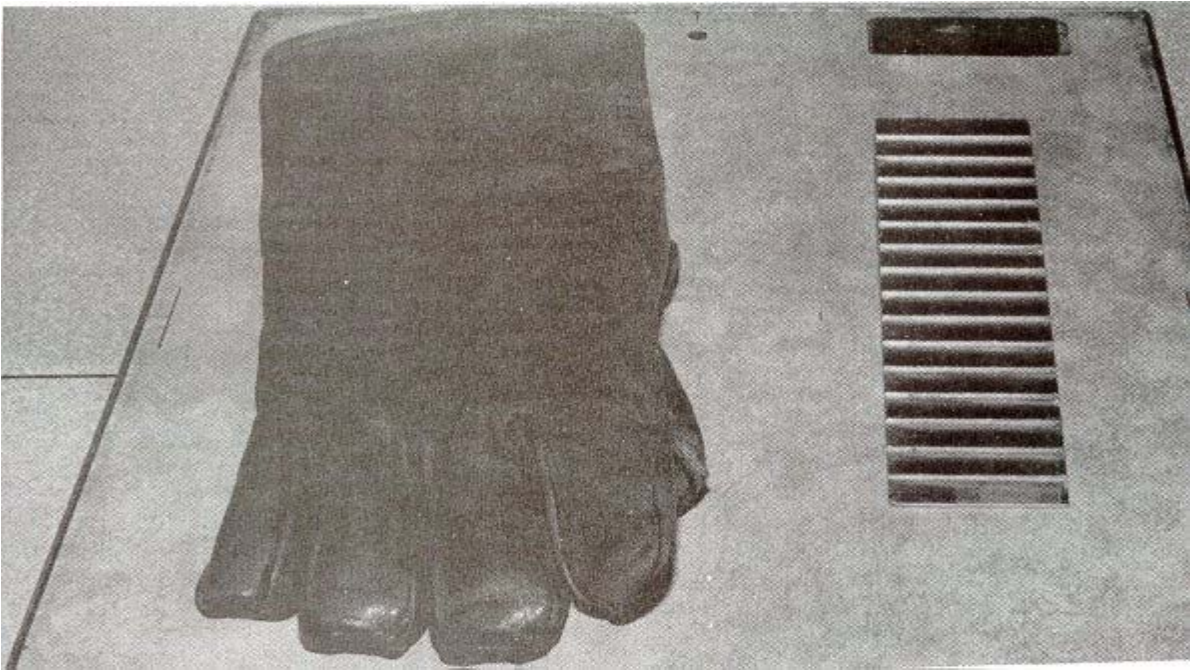

Figure 11-2. Test being made of one glove from a pair.
- c. Make the exposure for each item (see figure 11-2).